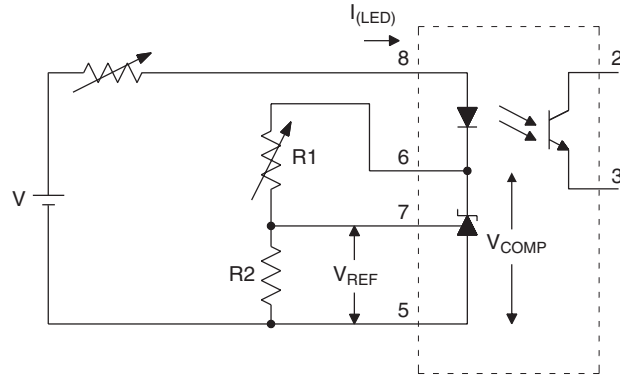

FIG. 2.  $\Delta V_{REF}/\Delta V_{COMP}$  TEST CIRCUIT
| Ratio of $V_{REF}$ variation to the output of the error amplifier | $I_{LED} = 10\text{ mA}$ (fig. 2)  | $\Delta V_{COMP} = 10\text{V}$ to $V_{REF}$    | ALL    |       | -0.5  | -2.7  | mV/V          |
2. The dynamic impedance is defined as  $|Z_{OUT}| = \Delta V_{COMP}/\Delta I_{LED}$ . When the device is operating with two external resistors (see Figure 2), the total dynamic impedance of the circuit is given by: